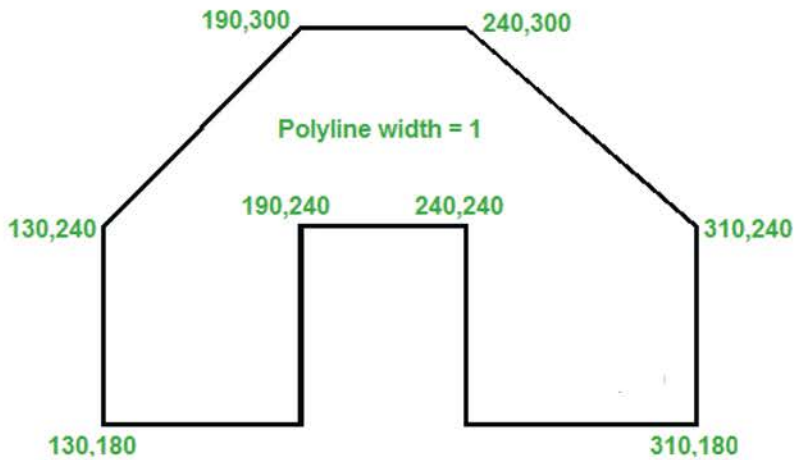

Fig. 2.24 Exercise 3
3. Construct the polyline outline given in Fig. 2.24. There are a sufficient number of **x,y** coordinate figures shown to allow the whole outline to be constructed.